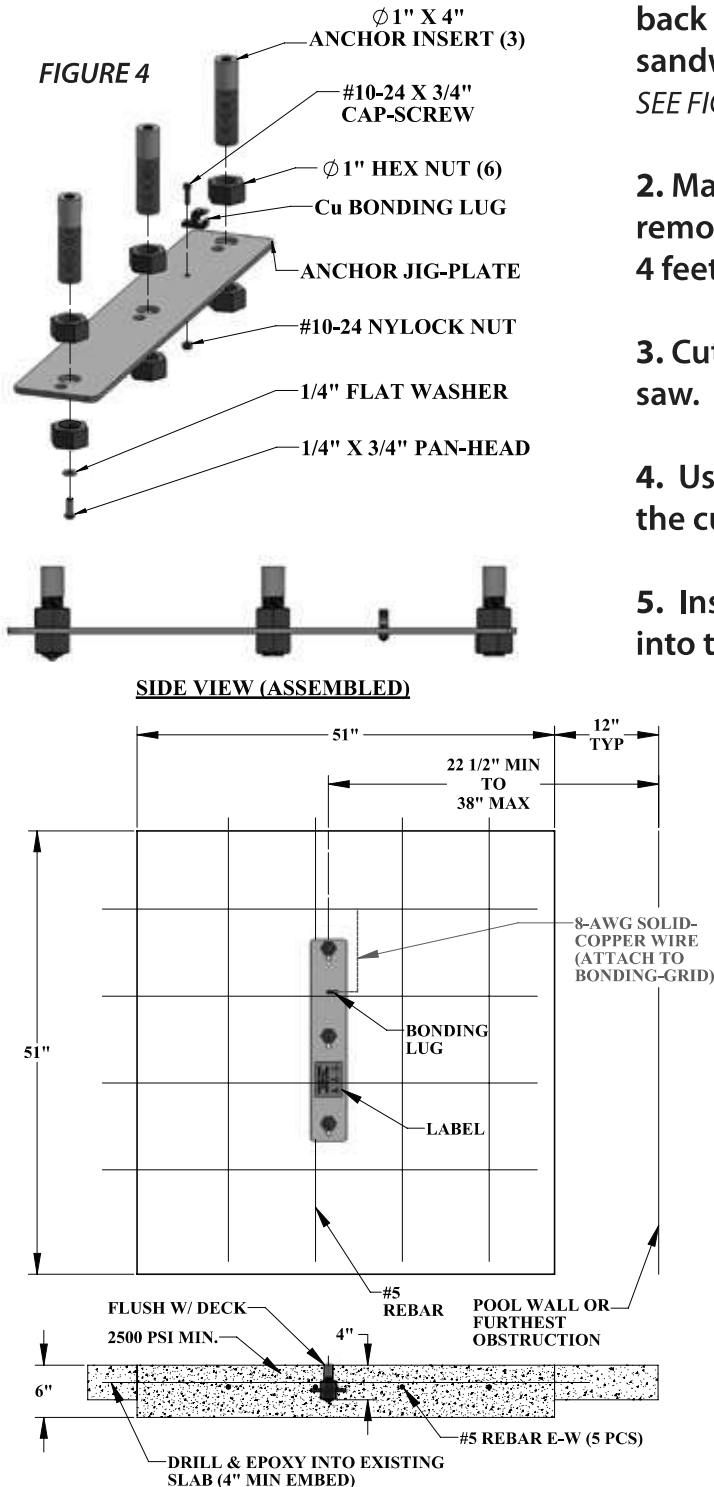

FIGURE 5
5. Install rebar in the open area of the deck. Tie the rebar into the existing deck if possible. SEE FIGURE 5
6. Set the anchor system in place. For ADA compliance and clearance, make sure the center of the large anchor jig plate hole is between 22.5 and 38 inches from the pool's edge. SEE FIGURE 5
8. Bond the anchoring system according to your local code requirements by using the bonding lug on the anchor plate. SEE FIGURE 5 (See NEC Article 680.26)
2. Install rebar in the open area of the deck. SEE FIGURE 5, PAGE 6
5. Bond the anchoring system by using the bonding lug on the anchor jig plate. Bond the system according to your local code requirements. (See NEC Article 680.26) SEE FIGURE 5, PAGE 6